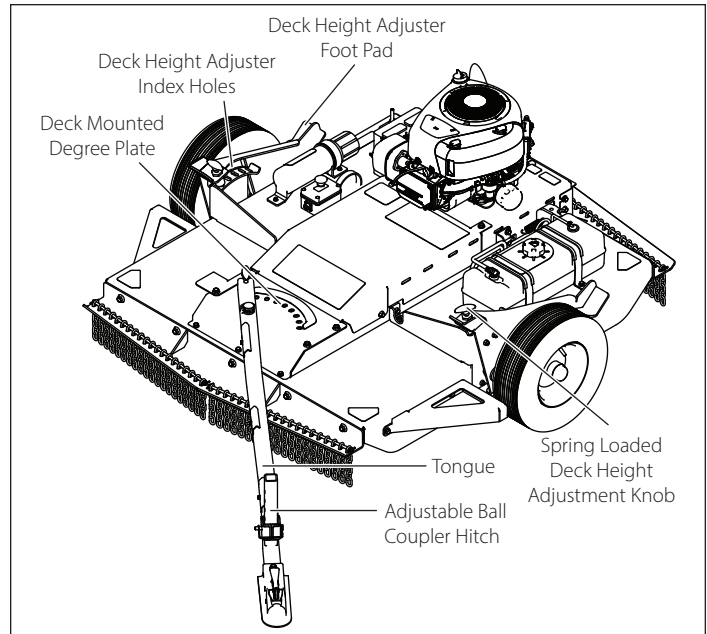

Figure 10
- a. Apply foot pressure to the deck height adjuster foot pad. *See Figure 10*
1. Remove hitch height adjustment pin and slide hitch up or down in tube to reach desired height. *See Figure 10*